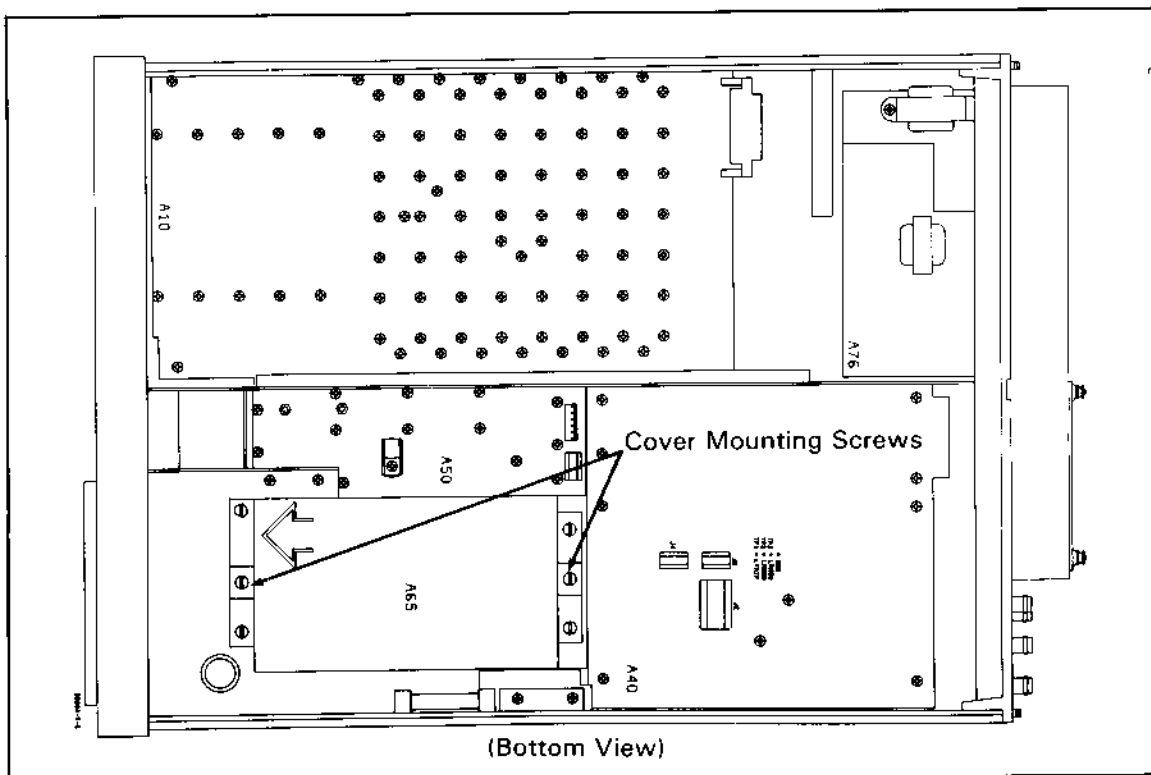

Figure 5-6. High Voltage Cover Mounting Locations
- m. Remove the aluminum cover from high voltage section (see Figure 5-6 for screw locations) on the bottom side of the 3585A.